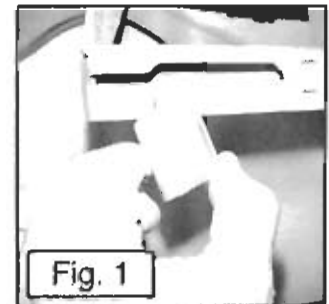

Fig. 1
**A.** Attach the base platform to the tree first. To do this, rotate the hatch cover out of the way, as shown in **Figure 1**.